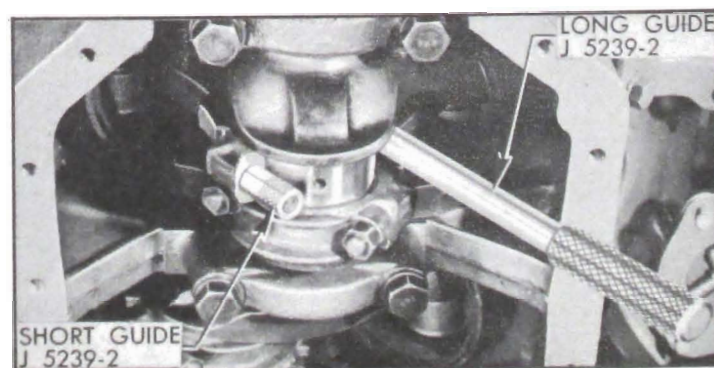

Figure 2-31—Connecting Rod Bolt Guides Installed
necting rod bolt, and install the *long* Guide J 5239-2 on the opposite bolt, above crankpin. Turn guides down to hold the bearing upper shell in place. See figure 2-31.
12. Insert piston and rod assembly into its cylinder bore with the long guide pin placed above the crankpin. Push the assembly down until the rod bearing seats on crankpin. See figure 2-31.